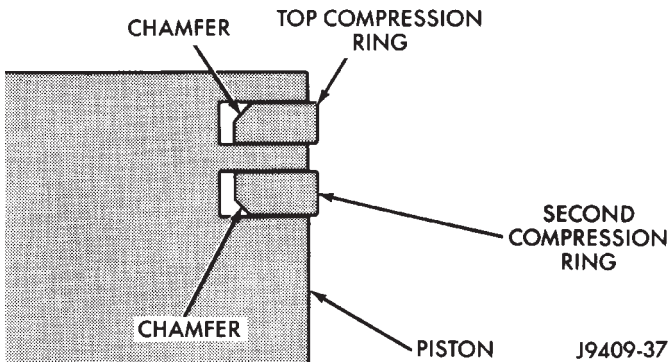

Fig. 15 Compression Ring Chamfer Location
(7) The second compression ring (black cast iron) has a chamfer on the BOTTOM of the inside edge (Fig. 15). This ring may also have 2 dots located on the top surface.
(9) The top compression ring (the scraping edge is gray in color) has a chamfer on the TOP of the inside edge (Fig. 15). This ring may also have 1 dot located on the top surface.